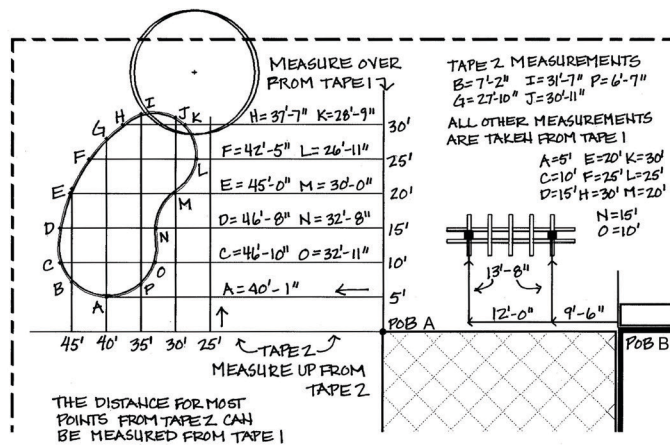

FIGURE 7. Grid measurement of odd-shaped area (Credit: Gail Hansen)
Grid measurements are used to locate large, odd-shaped areas on the ground plane, such as a plant bed or a curvilinear swimming pool (Figure 7). To create a grid, you need two tapes to be most accurate. Steps to creating the grid are as follows:
3. Label each point on your base sheet and record the distance, as shown in Figure 7.
Figure 7 also shows the use of the grid method to locate two posts on a trellis by pulling a tape from the corner of the house (POB B) and then pulling tapes at right angles from the edge of the patio. Although the triangulation method may be easier in the field, the grid method is easier to redraw on the scale base map if you don't have a compass.